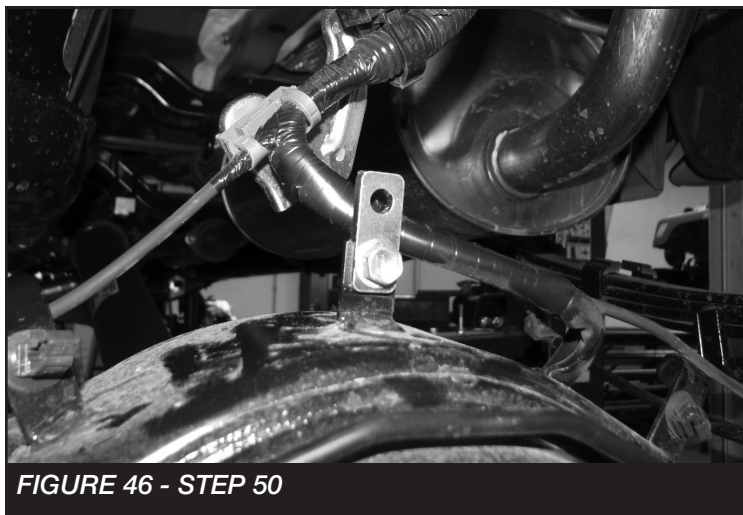

FIGURE 46 - STEP 50
50. Locate FT70062 (ABS line bracket). Attach it to the factory ABS Perch using the factory hardware. Attach the factory ABS bracket to the new bracket using the supplied 5/16" x 1" bolt, nut, & washers. Torque to 29 ft-lbs **SEE FIGURE 46**